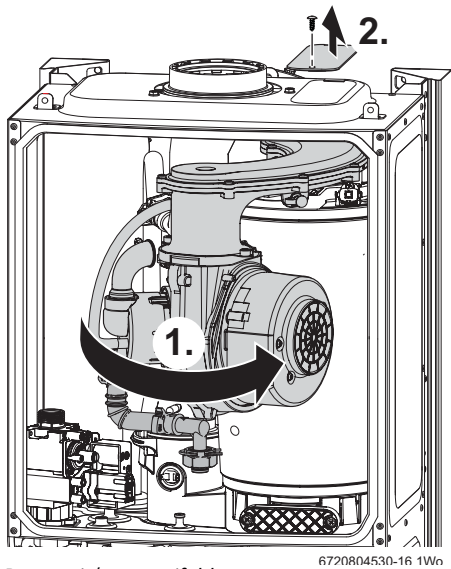
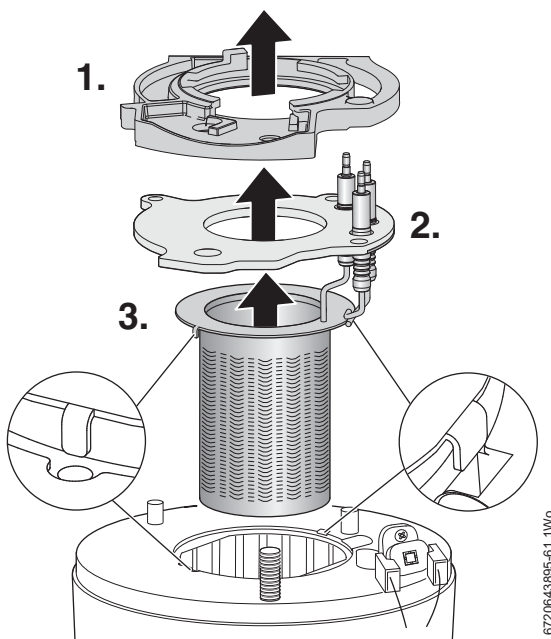

Fig. 60 Rotate air/gas manifold
Fig. 61 Burner removal
1. Refer to figure 60 and rotate fan and air/gas manifold assembly around the top of the heat exchanger until it stops at the lug.
- Refer to figure 61
- ▶ Refer to figure 64 and access the heat exchanger flue ways by inserting the cleaning brush (7 716 192 312) through the top access hole in the casing, removal of panel shown in figure 60.
- ▶ Re-assemble ensuring that the lower baffle (2) and the top baffle (1) are refitted correctly.
- ▶ Refer to figure 61 when re-fitting the burner to ensure that it fits centrally within the heat exchanger and location tabs are situated in location holes.